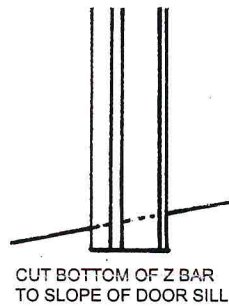
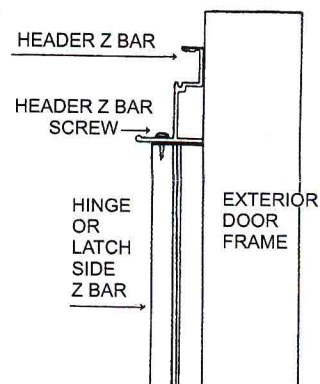

Figure 2
Figure 7
2. Measure Jamb Mounting Surface and cut bottom of Z Bars to Correct Length and to slope of Exterior Door Threshold. (Fig.2)
3. Determine the hinge side of the door. Then cut Hinge Side Z Bar 1/8" less than the length of and to the Slope of Exterior Door Threshold. (Fig. 2)
7. Place Header Z Bar into opening on top of Hinge Side Z Bar. Install Header Z Bar Screw in Hinge Side Z Bar and tighten. (Fig. 7) Fasten Header Z Bar to Exterior Door opening with a screw at each end then check for level. Install remaining screws.
8. Cut Latch Side Z Bar 1/8" less than the length of and to the Slope of Exterior Door Threshold. (Fig. 2) Place Latch Side Z Bar into Exterior Door opening. Install Header Z Bar Screw into Latch Side Z Bar and tighten. (Fig. 7) Fasten Latch Side Z Bar with a screw at top and bottom, then check with a level to make sure Latch Side Z Bar runs straight up and down. Install remaining screws
2. Determine Inoperative Door and cut Hinge Side Z Bar 1/8" less than the length of and to the slope of Exterior Door Threshold. (Fig. 2)